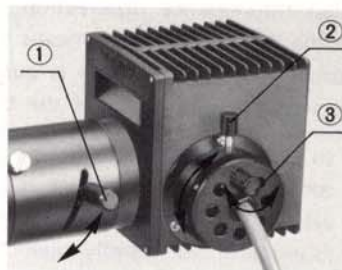

Fig. 7
- 1) Looking at the filament image projected on the screen, focus it by means of the focusing knob ①. (Fig. 7)
- 2) Loosen the locking screw ② and, sliding the lamp socket in and out, and rotating in either direction, center the filament image. (Fig. 7)